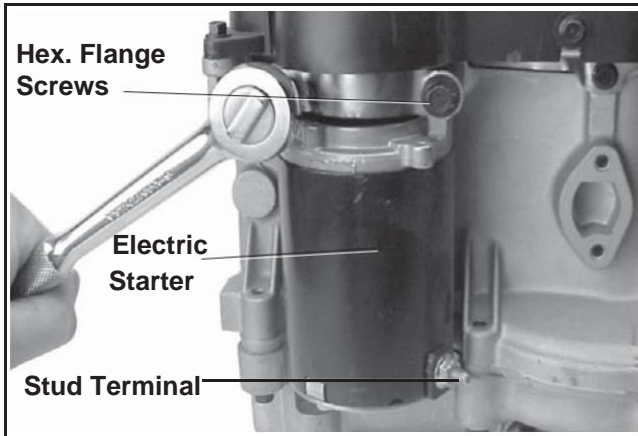

Figure 9-5. Removing Bendix Drive Starter.
1. Disconnect the lead from the stud terminal on the electric starter. See Figure 9-5. Disconnect both leads on Solenoid Shift Starter.